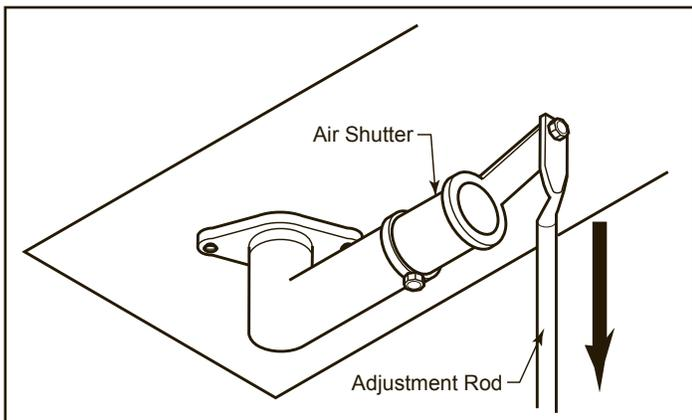

Figure 38 - Pull Adjustment Rod Down to Open Air Shutter
- To decrease air mixture, push up the adjustment rod located beneath the stove. This closes the shutter. Flames will be more yellow. Figure 38